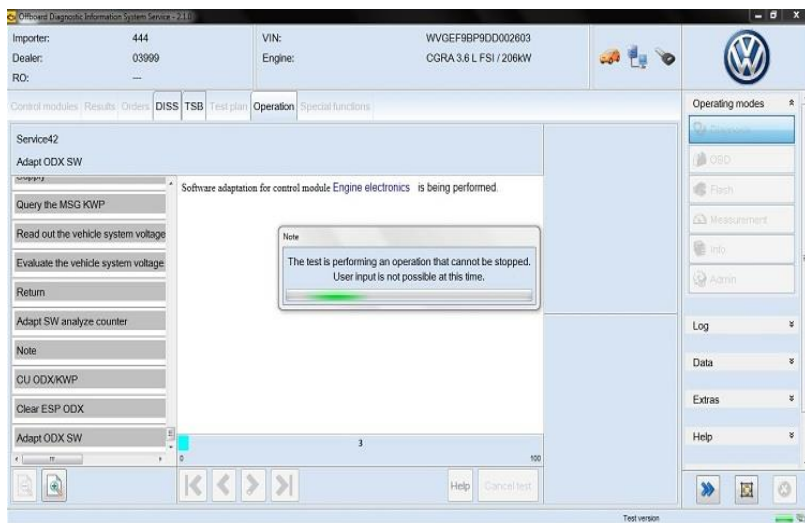

Figure 7
13. Software adaptation is being performed (Figure 7).